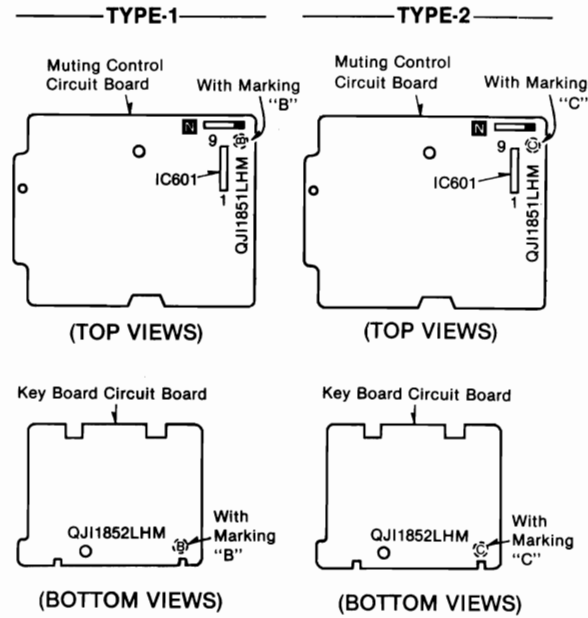

Fig. 1 Fig. 2
• Type-1...RS-M253X sets with marking "B" on the circuit board (shown in Fig. 1).